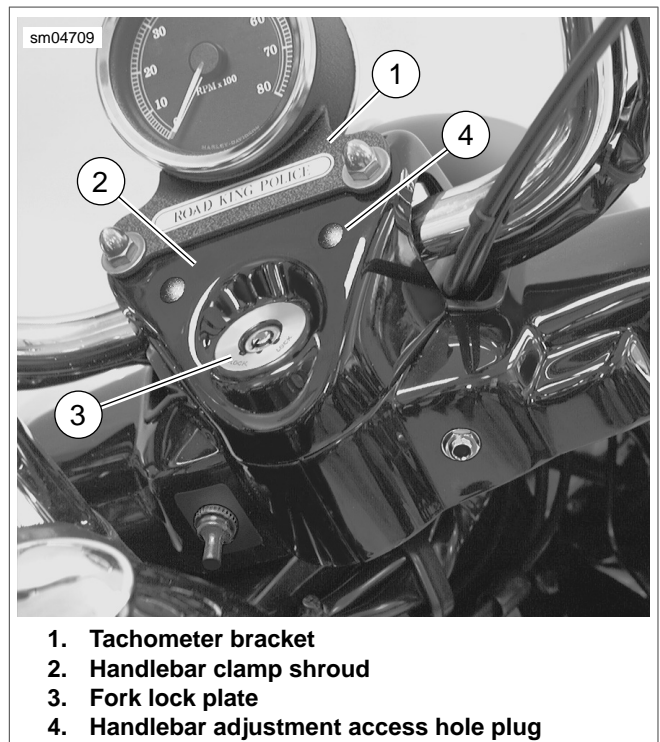

Figure 2-18. Install Handlebar Clamp Shroud
The two rear holes in the handlebar clamp shroud allow the rider to adjust the handlebars without having to remove the shroud. To keep out moisture and debris, be sure to install plastic plugs back into holes after handlebar adjustment. See Figure 2-18.
1. Place tachometer bracket over studs at top of handlebar clamp shroud. Install two acorn nuts (with flat washers) onto studs and alternately tighten to 72-108 **in-lbs** (8.1-12.2 Nm). See Figure 2-18.